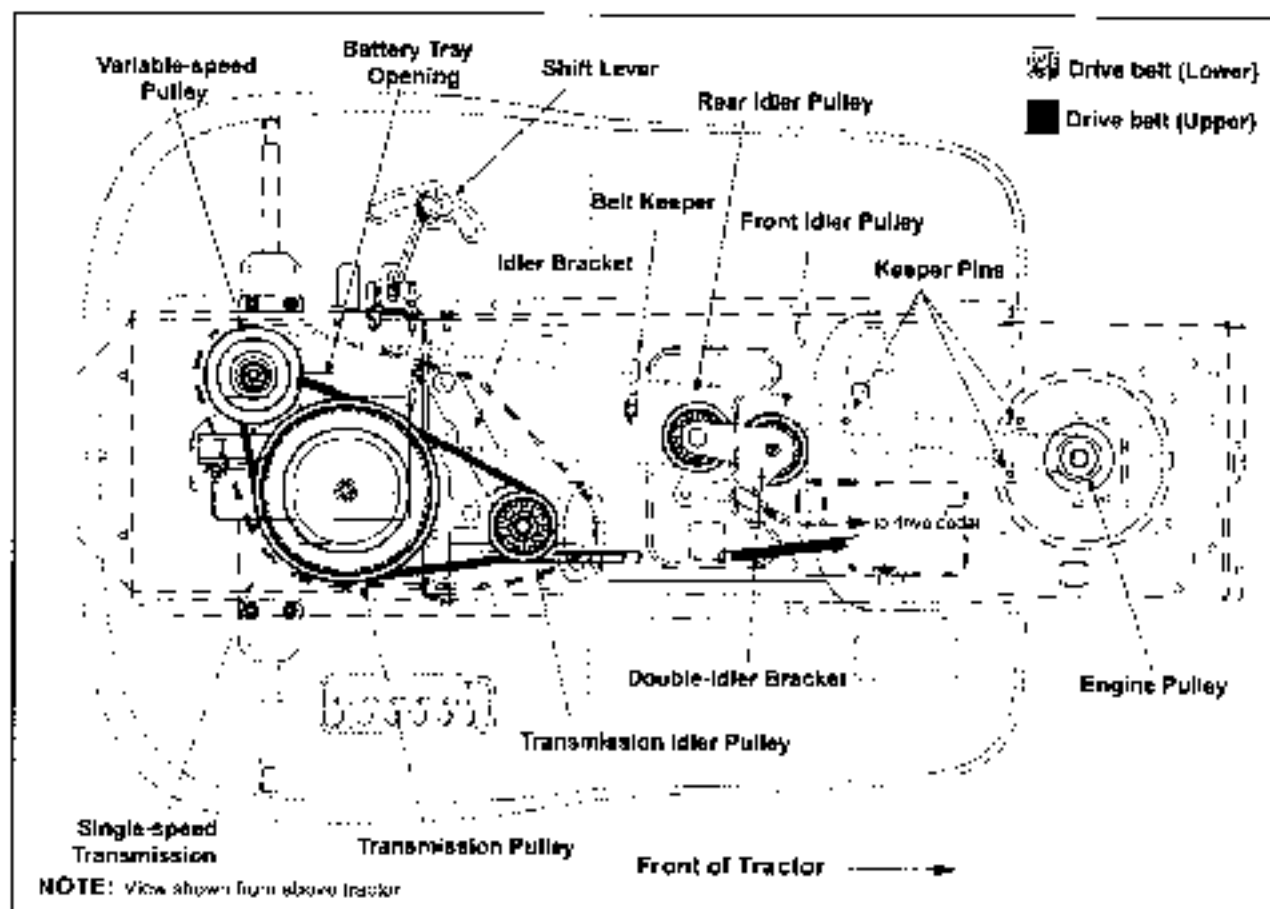

Figure 19
- Locate the transmission idler pulley on the upper drive belt by looking through the battery tray opening. See Figure 19.
- Reroute the new upper drive belt as shown in Figure 19.
- Locate the variable-speed pulley through the battery tray opening. See Figure 19.
- Remove the rear idler pulley from the double-idler bracket while unrouting the belt from around both the rear and the front idler pulley. Refer to Figure 19.
- Remove the drive belt by feeding it from both ends toward the front idler pulley on the double idler bracket. See Figure 19.
- Route the replacement belt around the pulleys, belt keepers and keeper pins EXACTLY as the old one was routed. Refer to Figure 19.